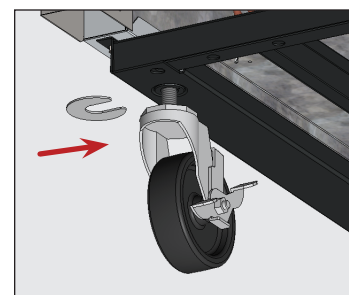

Fig. 9. Insert the castor shim(s). be sure to tighten the castor stem.
5. If the unit is not level, on the low end of the appliance, loosen the castor bolt enough to slide provided castor shims between the castor bearing and the bottom rail of the appliance. See fig. 9.
6. Install the desired number of shims. See fig. 9.